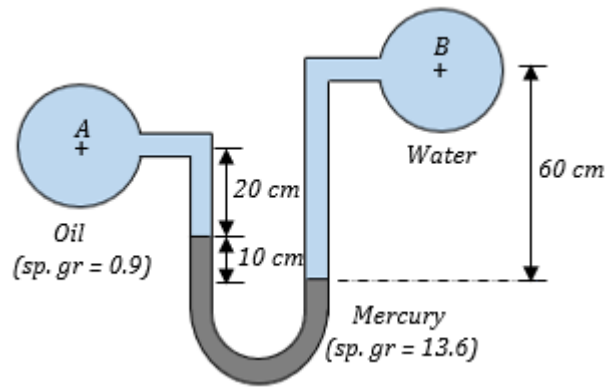

Figure 9
15. A differential manometer is connected at the two points A and B as shown in figure 9. At B air is 9.81 N/cm^2 (abs), find the absolute pressure at A.